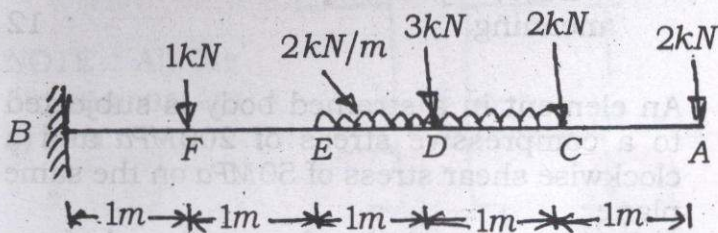

Fig. 01
1. (a) Draw the S.F and B.M. diagrams for a cantilever loaded as shown in Fig. 01. Show all the calculations.